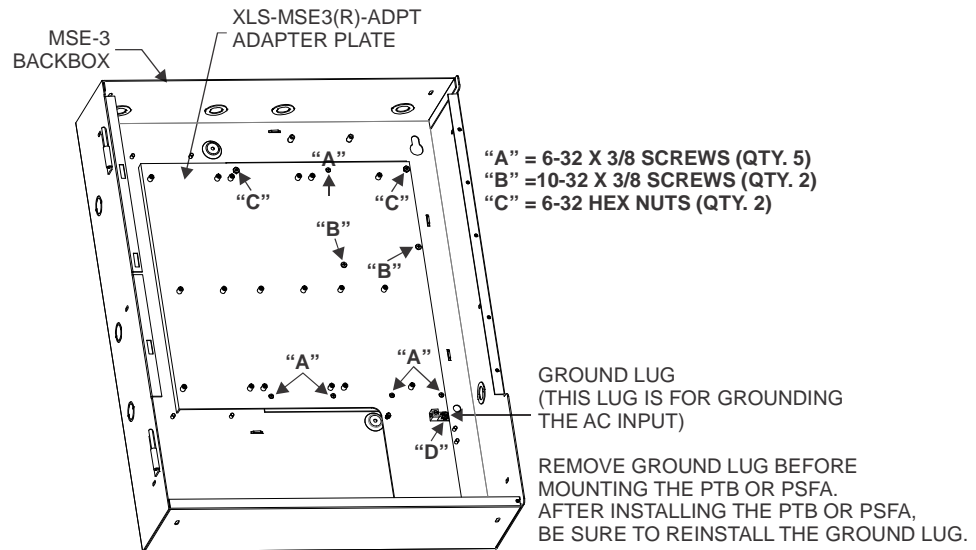

Figure 1
1. Place the XLS-MSE3-ADPT over the studs in the backbox and secure it in place with the hardware provided as shown in Figure 1.
3. One PTB or PSFA can be mounted on the XLS-MSE3-ADPT on the bottom right of the plate using the four studs provided. Refer to the PTB Installation Instructions, P/N 315-034877, or the PSFA Installation Instructions, Document ID A6V12057961. The stud marked "D" in Figure 1 is a lug for grounding the AC input. Remove the ground lug before mounting the PTB or PSFA. After installing the PTB or PSFA, be sure to reinstall the ground lug.